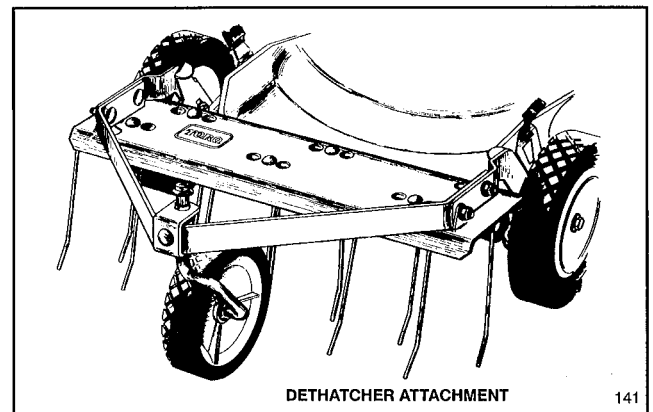

Figure 33
**3. Dethatcher Kit, Model 59131 (self-propelled model only)**—Installs in minutes. Front mounted for easy maneuverability. As spring tines scratch and vibrate through the grass, thatch is loosened and cut and recut by the mower (Fig. 33).